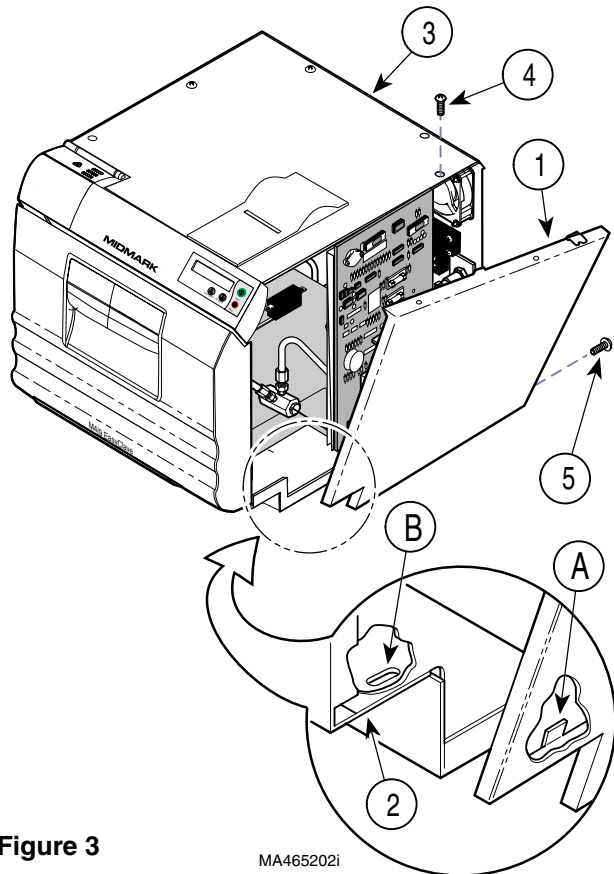

Figure 3
9. Insert three tabs (A, Figure 3) of right hand side panel (1) into three slots (B) of base (2).
10. Raise top edge of right hand side panel (1) into position under top cover (3) and secure using two screws (4) and one screw (5). Make sure back lip of right hand side panel is on outside of back panel; not on inside.